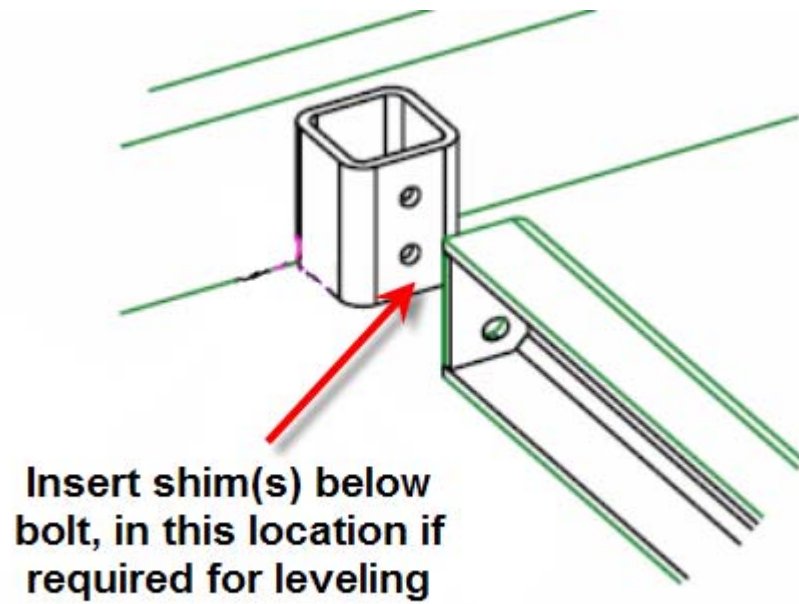

Figure 19 – Shim Location(s)
8. If needed for leveling, shim the supports as show in Figure 19. Due to the size of the shims, they may hang below the joist. These can be trimmed as necessary.